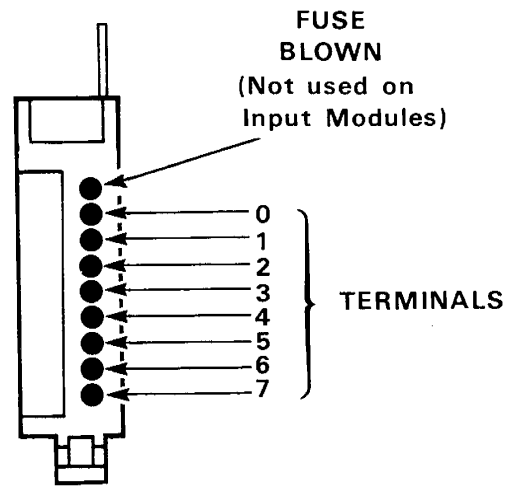

Figure 4.2 – I/O Module Status Indicators
**4.2.1 I/O Module Indicators** — On the front of the basic AC and DC Input and Output Modules are status indicators. (Refer to Figure 4.2.) Each of these indicators corresponds to a terminal on the module's Wiring Arm. These indicators illuminate when the I/O device connected to the corresponding terminal is ON, or energized.